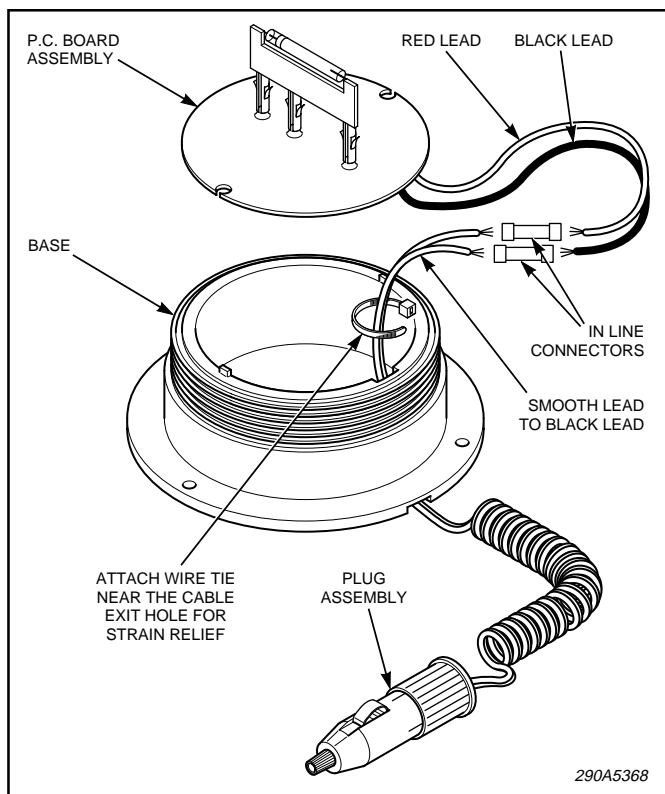

Figure 3.
- G. See figure 3. Connect the plug assembly's ribbed lead to the P.C. board's red lead. Connect the plug assembly's smooth lead to the P.C. board's black lead. For strain relief, attach the wire tie near the cable exit hole.